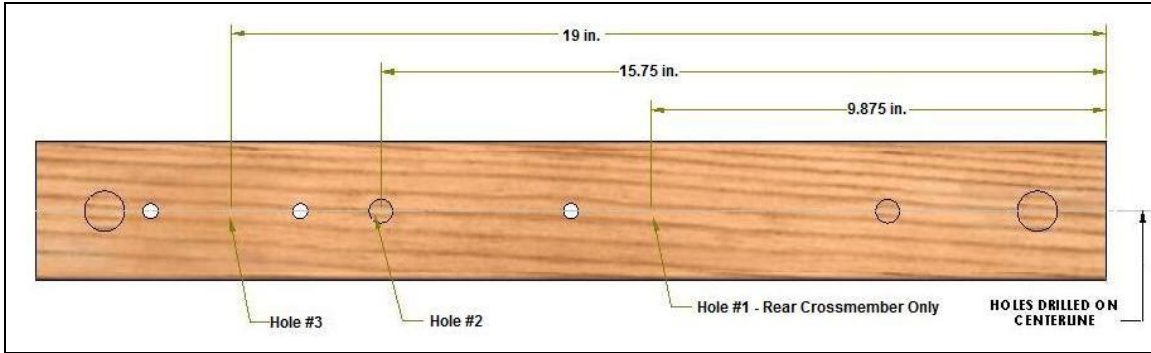

Figure 3 – Placement of Drilled Holes
3) Drill Instructions/Hole Orientation (see Figure 3)